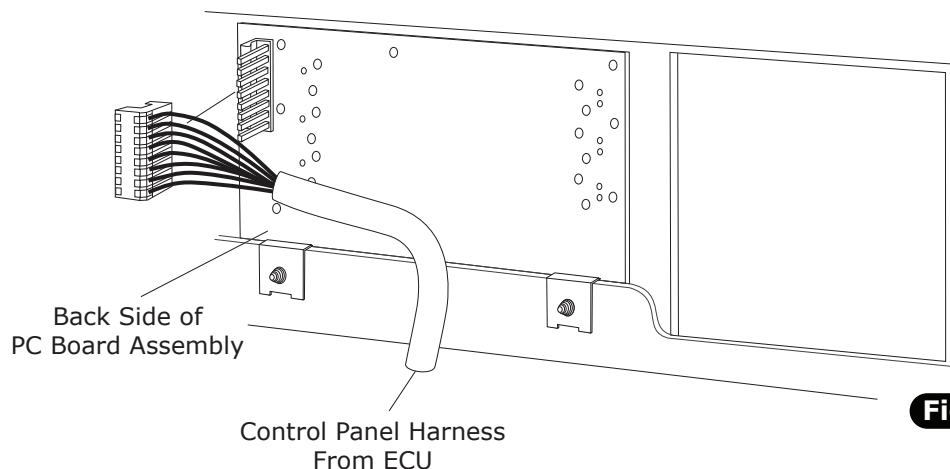

Figure 7
1. From under the dash, plug in the control panel wiring harness as shown in Figure 7, below.